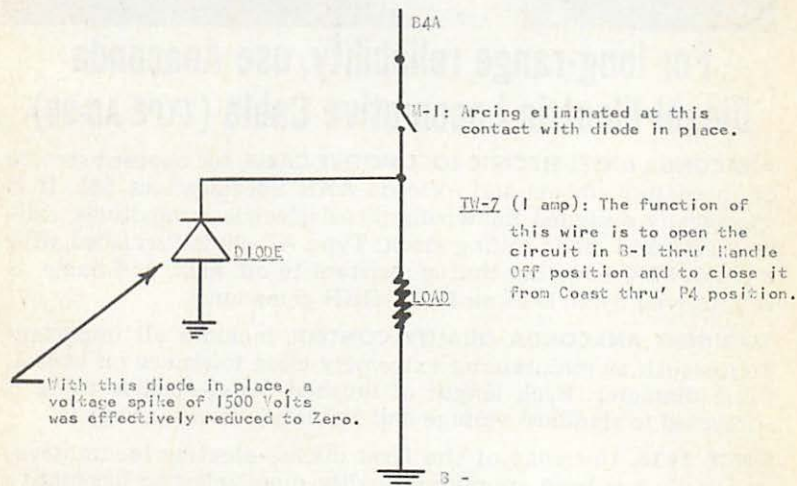
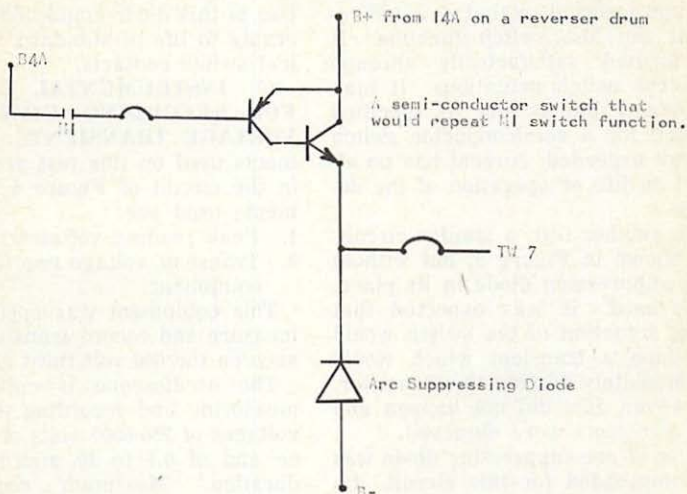

FIGURE 4 — Spike Suppressing Circuit Using A Diode.
FIGURE 5 — Switching Circuit With Spike Suppressing Diode in Place.
12. SUPPRESSING SPIKES: These higher transient voltages on a 2-car train can be effectively suppressed. This was done by placing a diode in inverse parallel with the load on a two car train. See Figure 4. In another laboratory test, using a similar arrangement, an 1800 volt spike was reduced to 2 volts.
Since the transients could be suppressed, a semiconductor switch, with arc suppressing diode as shown in Figure 4, was inserted in the controller as shown in Figure 5.
In another test, a similar circuit, as shown in Figure 5, but without arc suppressing diode in its place, was used. It was expected that first actuation of the switch would produce a transient which would immediately destroy the transistor. However, this did not happen and no transients were observed.